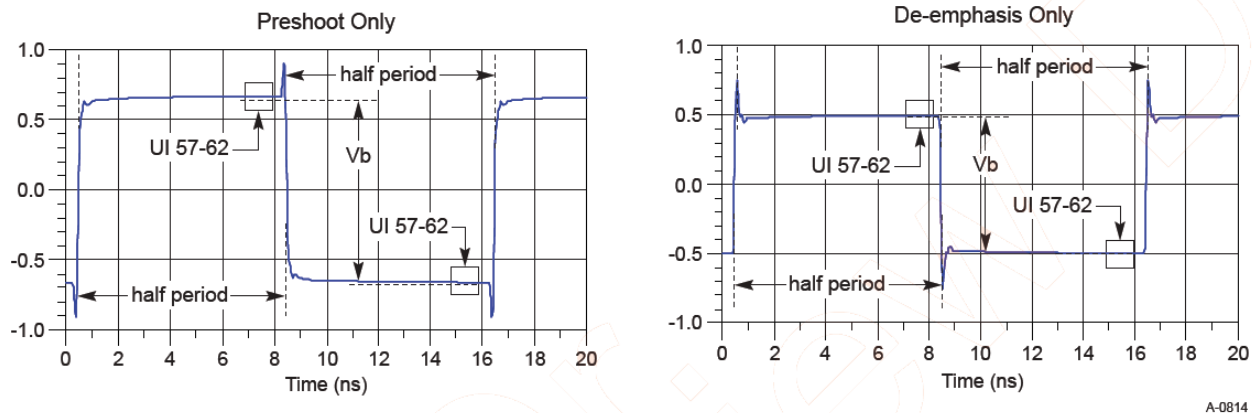

Figure 101 Waveform measurement points for preshoot and de-emphasis
8.0 GT/s, 16.0 GT/s and 32.0 GT/s PCIe signaling must support the full range of presets given in Table 8-1 (PCIe Base Specification Revision 5.0). Presets are defined in terms of ratios, relating the pre-cursor (V_c) is referred to as pre-shoot, while the post-cursor (V_b) is referred to as de-emphasis. This convention permits the specification to retain the existing 2.5 GT/s and 5.0 GT/s definitions for Tx equalization, where only de-emphasis is defined, and it allows preshoot and de-emphasis to be defined such that each is independent of the other. The tolerances in Table 8-1 (PCIe Base Specification Revision 5) also apply to 2.5 and 5.0 GT/s de-emphasis. The maximum swing, V_d , is also shown to illustrate that, when both c_{+1} and c_{-1} are nonzero, the swing of V_a does not reach the maximum as defined by V_d . The high frequency nature of PCIe signaling makes measurement of single UI pulse heights impractical. Consequently all amplitude measurements are made with low frequency waveforms as shown in Figure 101.